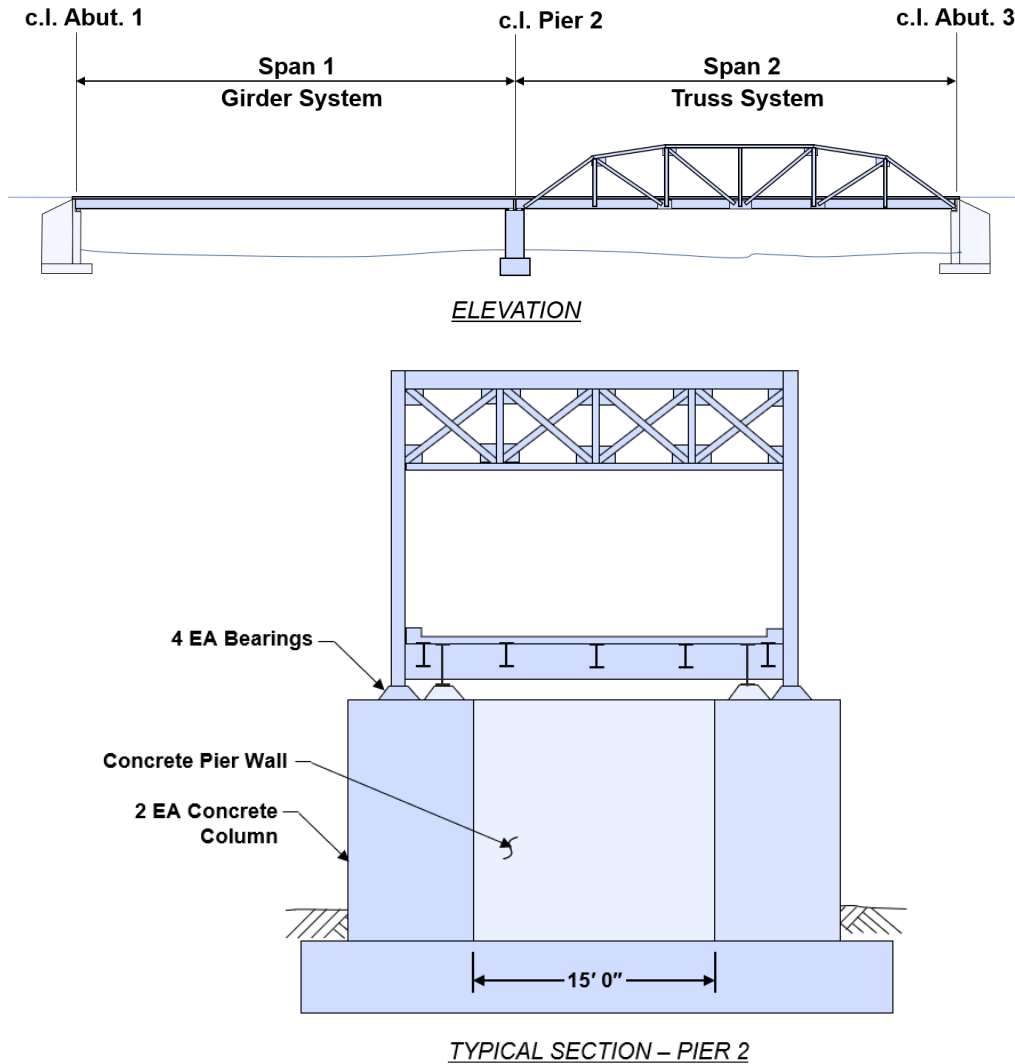

Figure B9-1A—Elevation View and Typical Section (Pier 2) for Girder/Truss Bridge with no Pier Cap Example
The subject of this example is a Girder/Truss bridge with two (2) main support columns and a pier wall at Pier 2. This example illustrates the determination of no pier cap at Pier 2, as specified per 3.2.6.8. The sketch in Figure B9-1A shows bridge elements with relevant dimensions.